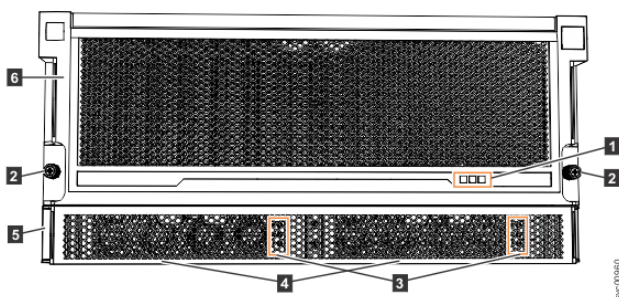
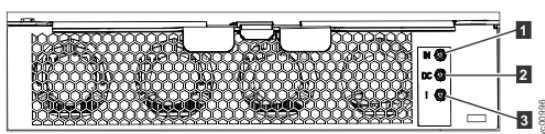

Figure 142. LEDs on the front of the expansion enclosure
Figure 143. LEDs on the front of a power supply unit
As Figure 142 on page 121 shows, the front of the 5U expansion enclosure contains LEDs for the display panel (1) and for each of the power supply units (3).
The 5U expansion enclosure contains two PSUs (4 in Figure 142 on page 121) that are accessible from the front of the enclosure. Each PSU has its own a set of LEDs, as shown in Figure 143 on page 122.